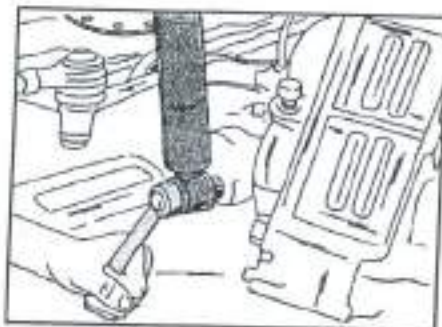

Fig. 4.4 - Fitting a shock absorber to the lower mounting.
- Refit both shock absorbers to the front axle. A spacer bush and a washer is placed between the axle beam and the shock absorber. Tighten the shock absorbers nuts (Fig. 4.4) to 7.0 kgm (50 ft.lb.).